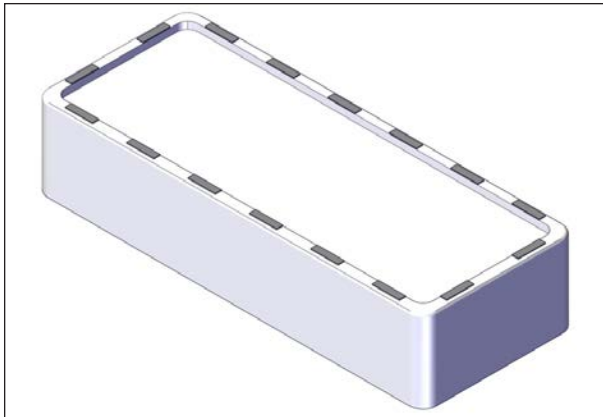

FIGURE 31: FOAM SPACER INSTALLATION
1. Install the foam spacers on the top of the spa using the masking tape provided in the seal bag to keep the spacers in place. There must be at least four foam spacers on each long side plus two in each corner. Do not stack foam spacers, see Figure 31.